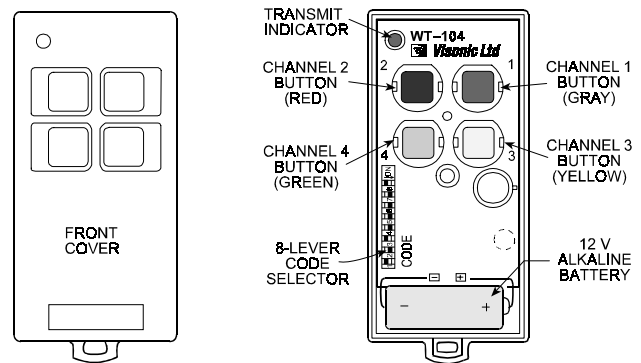

Figure 1. WT-104 with Front Cover Removed
- Insert the 12-volt alkaline battery (Duracell MN-21 or Golden Power GP-23A or equivalent) between the battery clips, so that the (+) and (-) markings on the battery are in the same direction as the markings on the P.C. board (close to each battery clip - see Figure 1). Check that the battery is held securely by the battery clips.
- All WT-104 units have an 8-key DIP switch block (marked 1 to 8). Each switch may be set to ON or OFF position, to create a unique digital system code - see Figures 1 and 2.